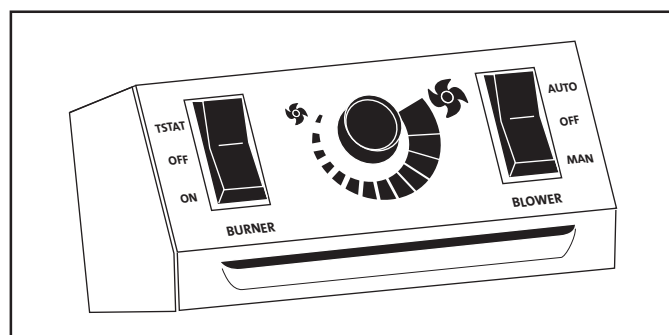

Figure 30. Burner Switch and Optional Blower Controls
1. Once the pilot is lit, burner operation is controlled by the rocker switch located at the left corner of the rear shroud. See fig. 30.